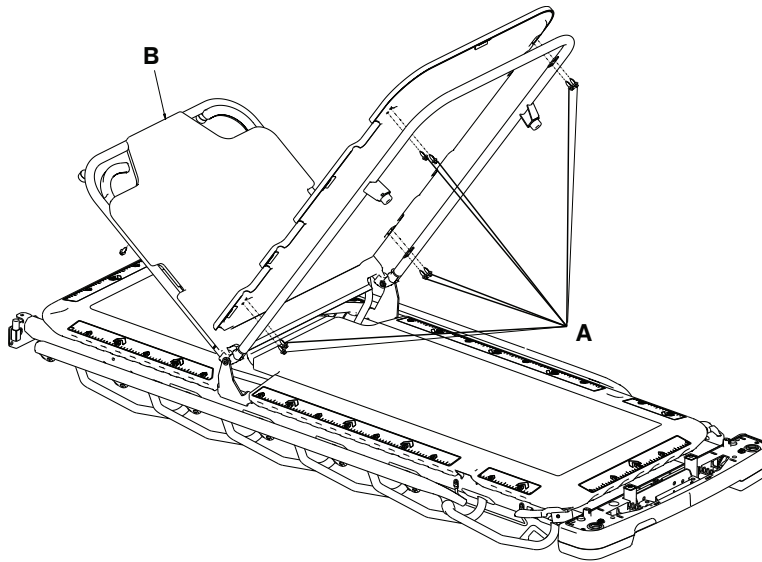

Figure 58 – Fowler skin replacement, Prime X option
3. Using a #2 Phillips screwdriver, unscrew the eight scrollok screws (A) that secure the Fowler backrest skin to the Fowler backrest frame (Figure 58).